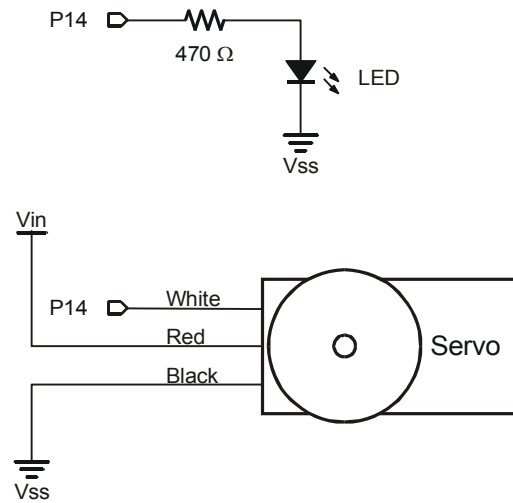

Figure 4-12
Figure 4-12 shows the schematic for the servo and LED circuits on the Board of Education Rev B. The instructions that come after this figure will show you how to safely build this circuit on your Board of Education Rev B.
- ✓ Build the LED circuit shown in Figure 4-12.